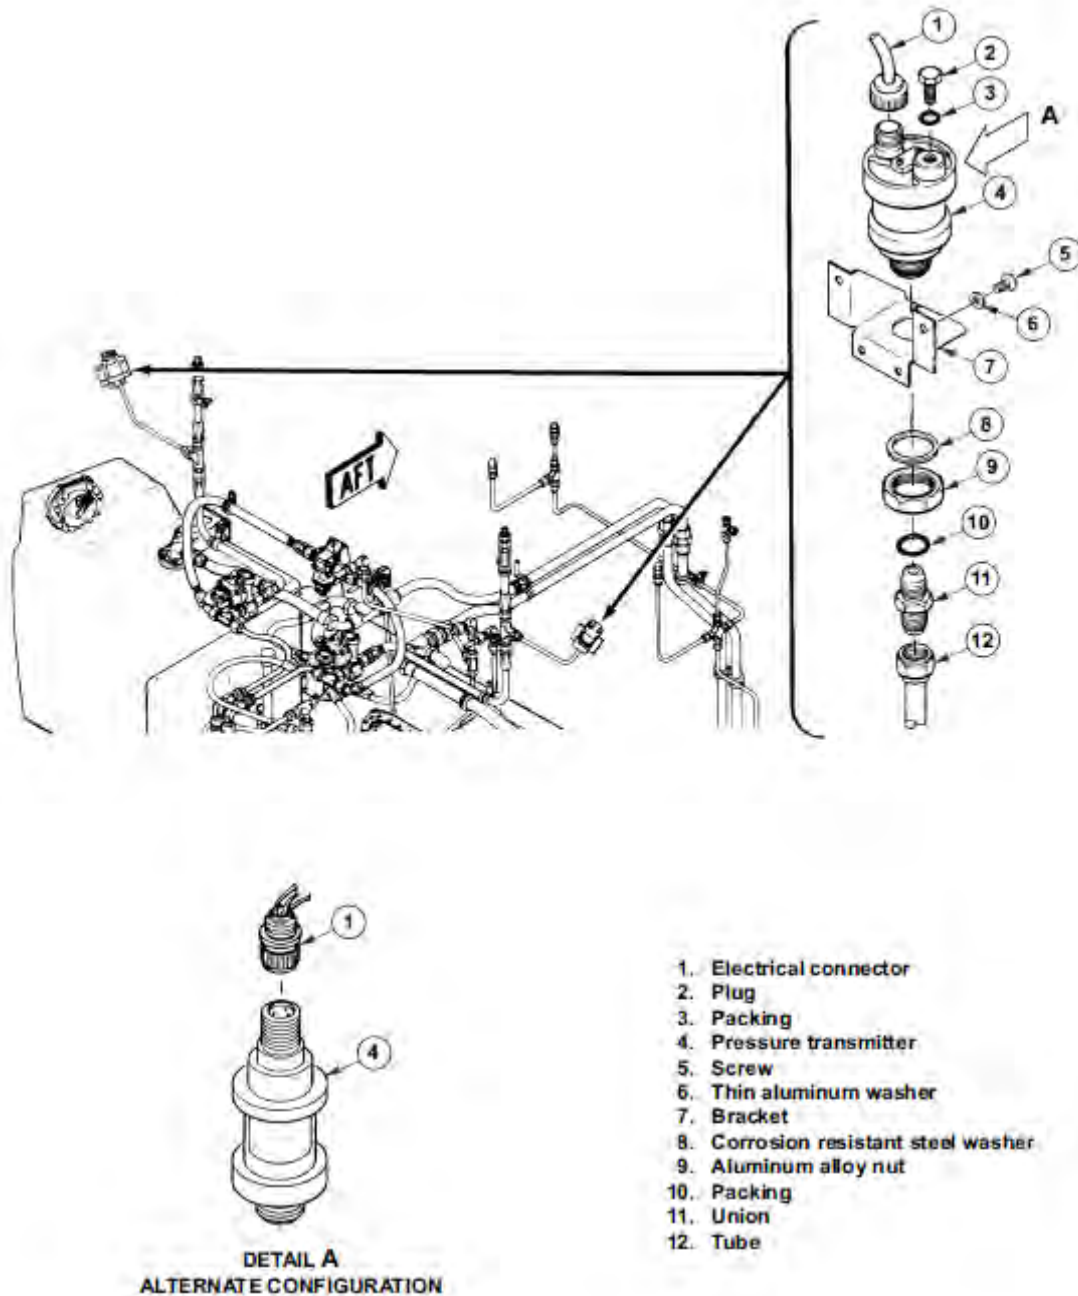

Figure 28-15. Fuel Pressure Transmitter
28.29.1.3 Disconnect electrical connector (1, Figure 28-15) from pressure transmitter (4).
28.29.2.1 If removed, install screws (5, Figure 28-15) and washers (6) to attach bracket (7) to aft cabin bulkhead.